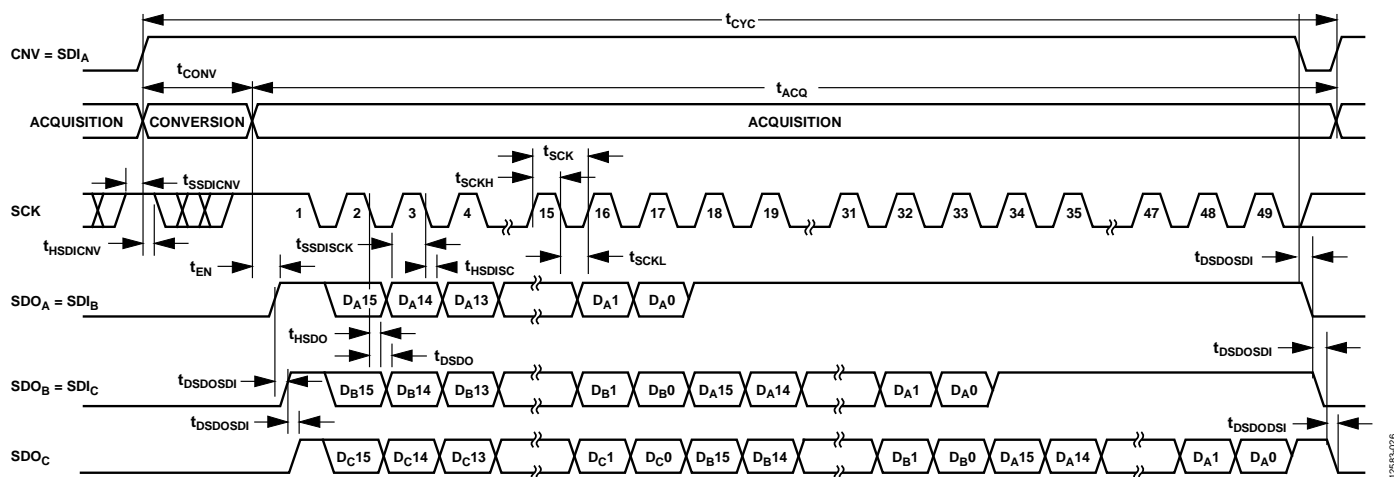
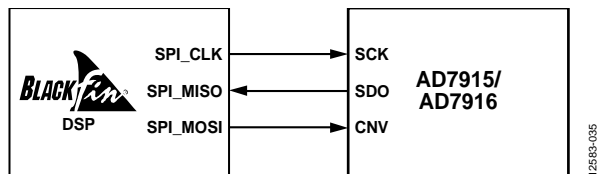

Figure 45. Chain Mode with Busy Indicator Serial Interface Timing
Figure 46. Typical Connection to Blackfin SPI Interface
- in chain mode if SCK is high during the CNV rising edge (see Figure 46).
A connection diagram example using three AD7915/AD7916 devices is shown in Figure 45, and the corresponding timing is given in Figure 46.
completed their conversions, the SDO pin of the ADC closest to the digital host (see the AD7915/AD7916 ADC labeled C in Figure 45) is driven high. This transition on SDO can be used as a busy indicator to trigger the data readback controlled by the digital host. The AD7915/AD7916 then enter the acquisition phase and powers down. The data bits stored in the internal shift register are clocked out, MSB first, by subsequent SCK falling edges. For each ADC, SDI feeds the input of the internal shift register and is clocked by the SCK falling edge. Each ADC in the chain outputs its data MSB first, and $16 \times N + 1$ clocks are required to readback the N ADCs. Although the rising edge can be used to capture the data, a digital host using the SCK falling edge allows a faster reading rate and, consequently, more AD7915/AD7916 devices in the chain, provided that the digital host has an acceptable hold time.
The AD7915/AD7916 can easily connect to a Blackfin® DSP SPI or SPORT. The SPI configuration is straightforward using the standard SPI interface, as shown in Figure 46.